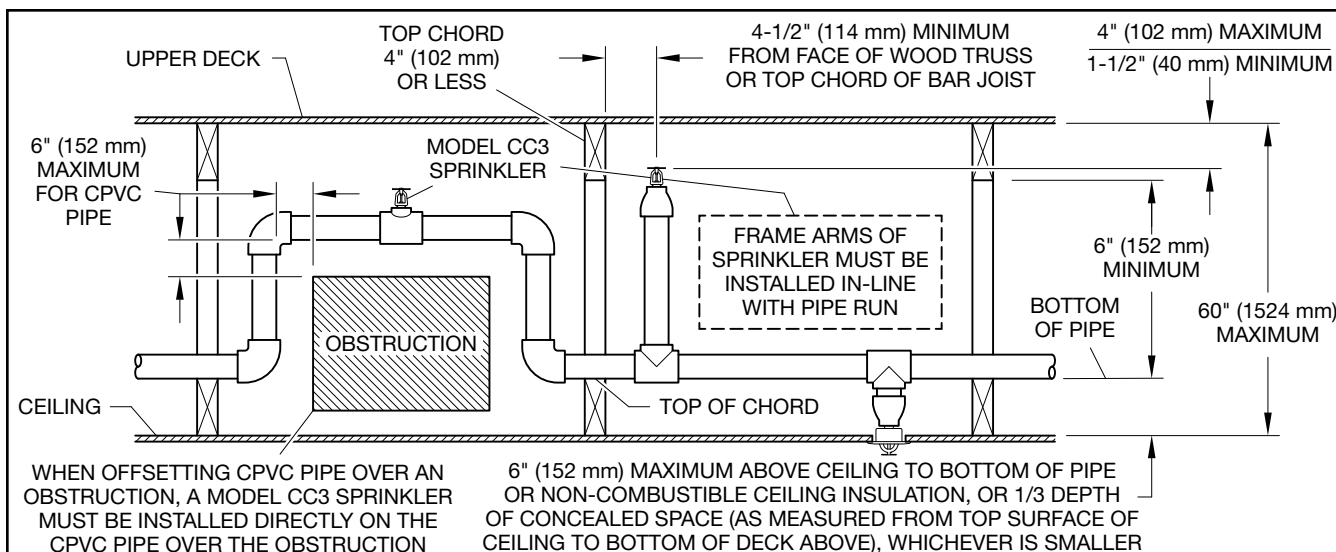
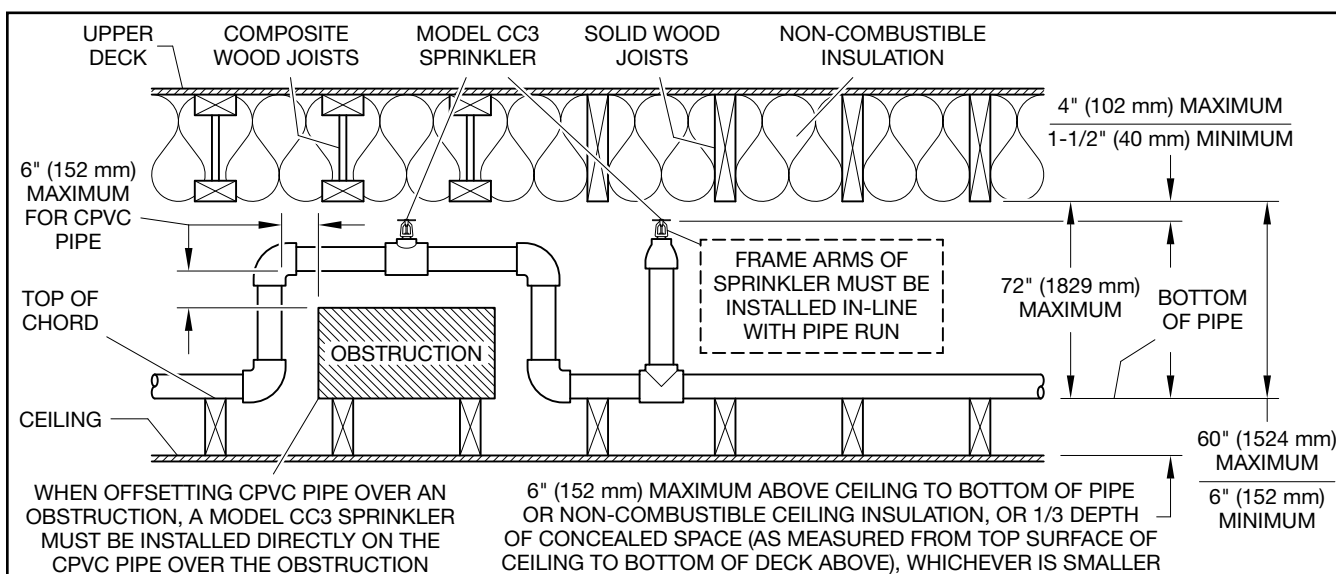

FIGURE 2
FIGURE 3
- Unobstructed wood truss construction or unobstructed bar joist construction, see Figure 2
- Non-combustible, insulation-filled solid wood or composite wood joist construction, see Figure 3
The 4.2K sprinkler is UL listed for a 1000 ft² (93 m²) draft curtain area as shown in Figures 2 and 3.
The 5.6K sprinkler is UL Listed for a 2000 ft² (186 m²) draft curtain area as shown in Figure 3. In addition, it may be used without draft curtains as shown in Figure 2 for unobstructed wood truss construction, on edge or on face, or for unobstructed bar joist construction.
- 1-1/2 in. to 4 in. (40 to 100 mm) below upper deck for wood truss construction or bar joist construction, see Figure 2
- 1-1/2 in. to 4 in. (40 to 100 mm) below solid wood or composite wood joists, see Figure 3
above), whichever is smaller, see Figure 2. For insulation-filled solid wood or composite wood joist construction, the horizontal run of pipe must be a maximum of 6 in. (150 mm) above ceiling or non-combustible ceiling insulation, or 1/3 the depth of concealed space (as measured from the top surface of the ceiling to the bottom surface of the joist insulation above), whichever is smaller, see Figure 3. The CPVC pipe can then be used to supply the Model CC3 Sprinklers, as well as the sprinklers below the ceiling. Unless modified by this technical data sheet,
as well as shown in Figures 2 and 3, additional Model CC3 Sprinklers are to be installed as shown in Figures 2 and 3 to protect the BLAZEMASTER CPVC product.
The Model CC3 Sprinklers are to be installed upright and with their frame arms, see Figure 1, in-line with the pipe run. See Figures 2 through 8, as applicable.